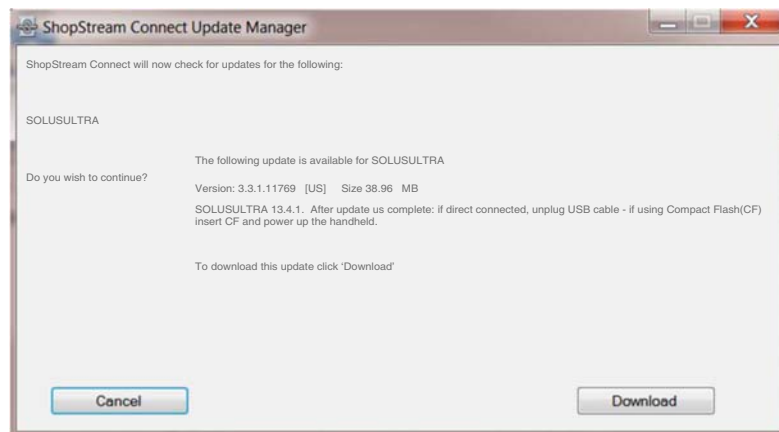

Figure 9-4
2. If service release updates are available, select **Next** to continue, then select **Download** and follow the on-screen instructions to complete the installation (Figure 9-4).